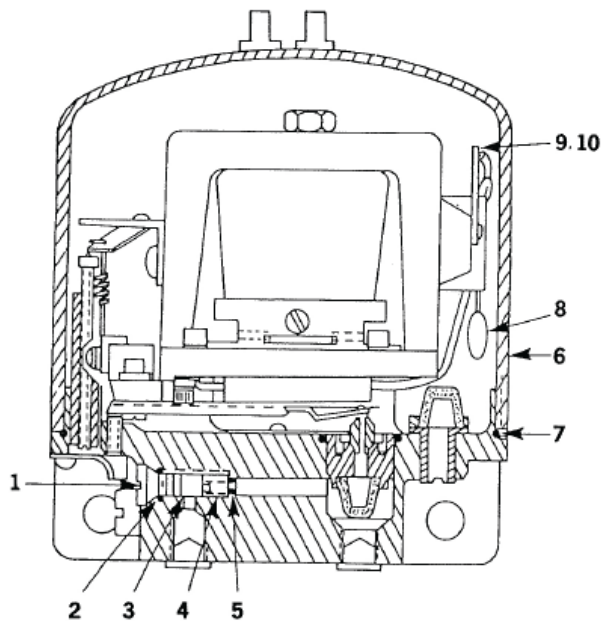

Figure 6-1. REPLACEMENT PARTS ILLUSTRATION
Check for dirty supply filter Item 3, Figure 6-1.
5.3.1.1 Removal and Replacement of Restrictor Orifice (Item 4, Figure 6-1) and Supply Air Filter (Item 3, Figure 6-1).